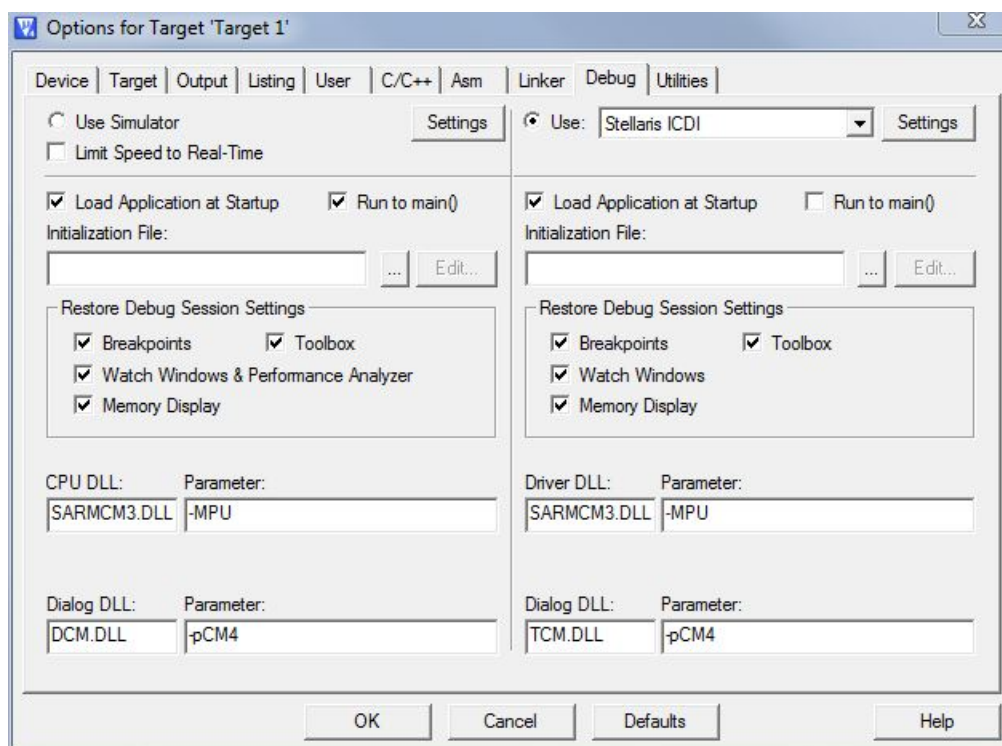
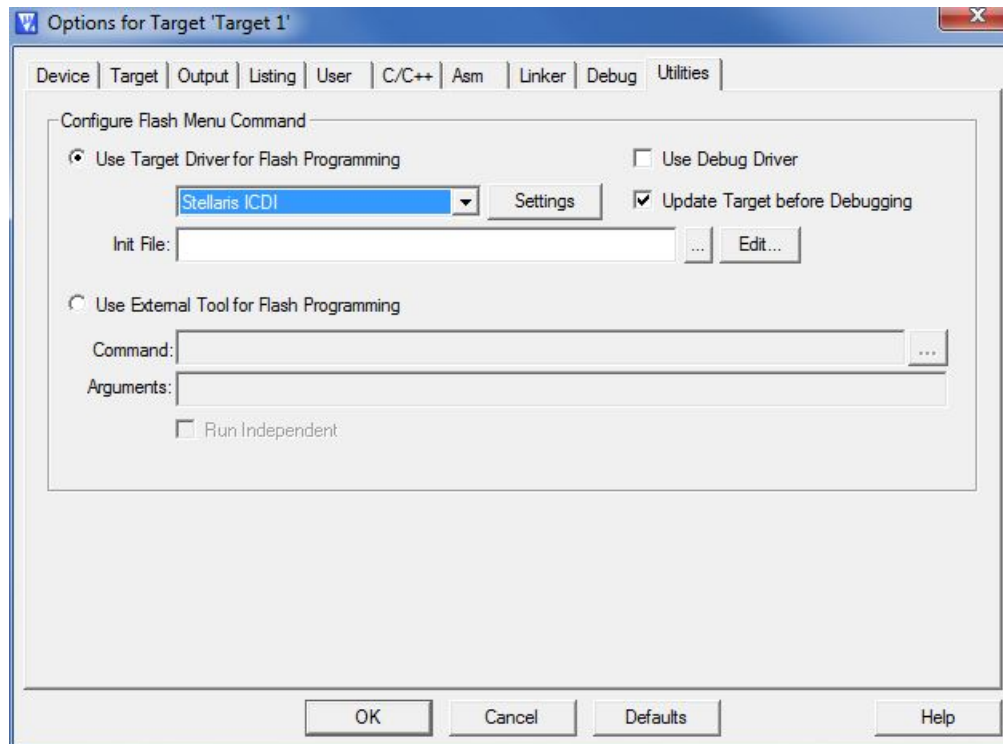

**Figure 17.**
**Figure 18.**
Go to Project → Options for Target 'Target 1.' The Options for Target 'Target 1' dialog box appears (see Figure 17).
1. In the same project options dialog shown in Figure 17, select the Debug tab (see Figure 18).
3. If you are using a Tiva C Series evaluation or development board as your ICDI, choose the Stellaris ICDI option from the drop-down box (see Figure 18).